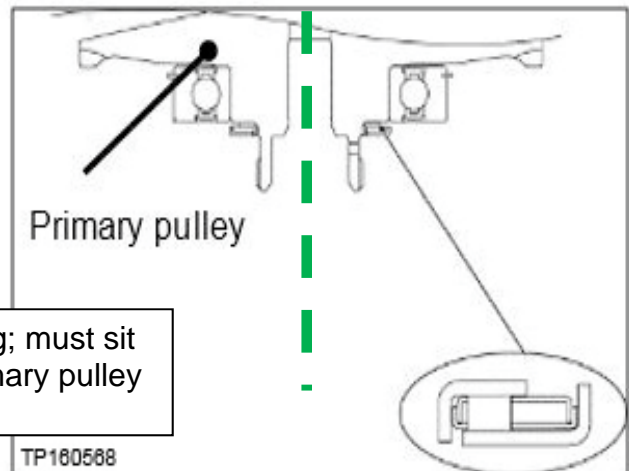

Figure 90
**CAUTION:** The thrust bearing has two sides. Reference Figure 90 for bearing orientation.